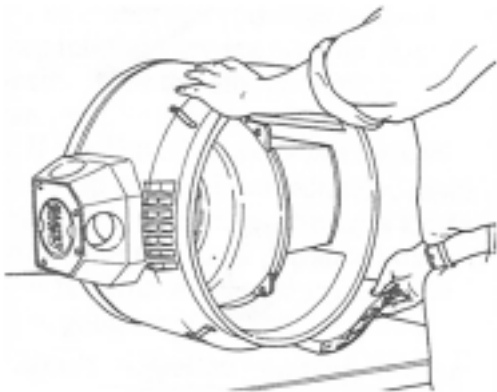

Figure 4: Lay the Main Housing on its side.
1. Lay the main housing (5) on its side. Make sure it's on top of cardboard to prevent scratching. Point the smaller diameter end with three clips toward you and the 3-way inlet towards the left. Place a block of wood or a book under the housing so it doesn't roll. (See Figure 4).